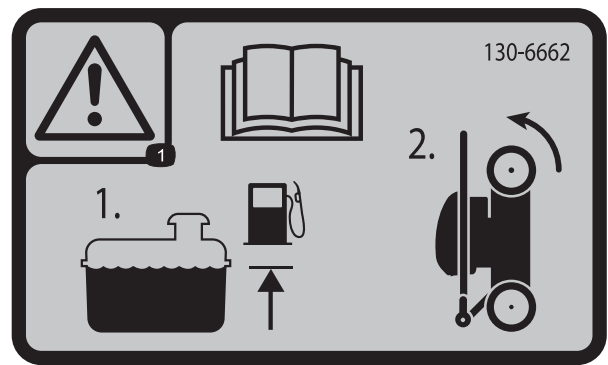

Figure 17
1. Ensure that the level of gasoline in the fuel tank is no higher than what is recommended by the engine manufacturer; refer to the engine manufacturer's decal on the engine (Figure 17).